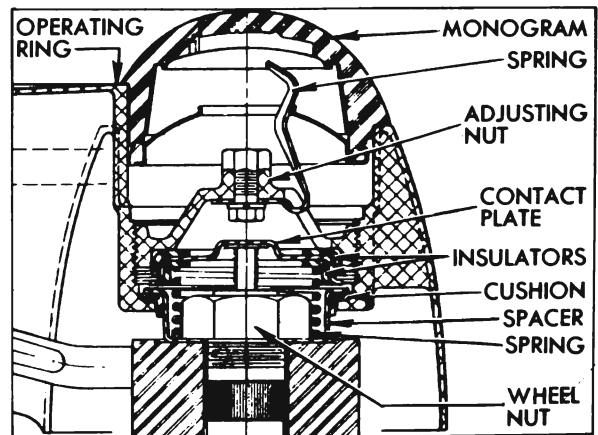

Figure 10-65—Horn Operating Ring Installation
nut, (3) remove the contact plate and spring, with insulators, (4) remove steering wheel nut, (5) remove operating ring with cushion and contact spacer. See figure 10-65.